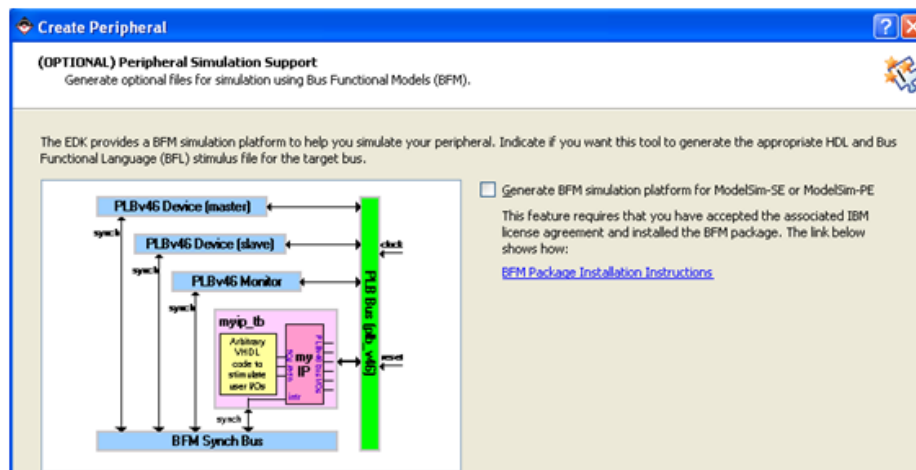

Figure 9. Peripheral Simulation Support Dialog Box
- 2-2-4. In the **(OPTIONAL) Peripheral Simulation Support** panel, leave **Generate BFM simulation platform** unchecked (see Figure 9), and click **Next**.